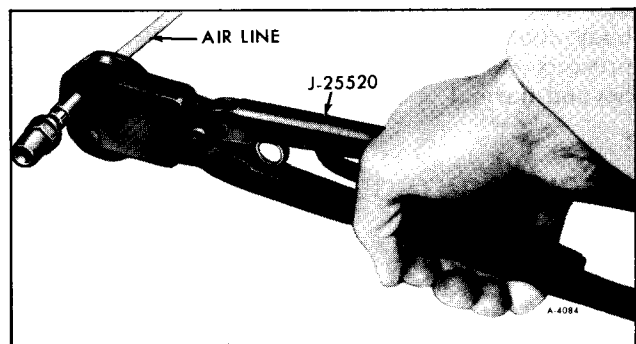

Figure 6—Special Tool J-25520 Crimping Air Line
3. Crimp fitting in place with Special Tool J-25520. This tool is designed so that crimp must be completed before tool will release (figure 6).